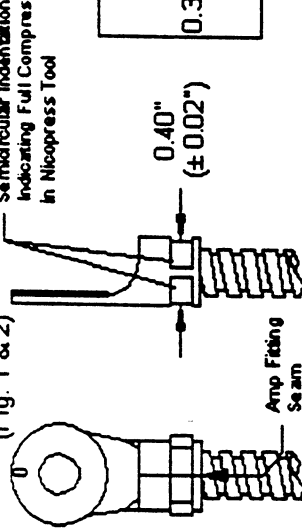

Fig. 1 Fig. 2
- 2) Refer to the diagram on Page 2, figures 1 & 2. Determine if your Amp Fitting's swaged indentation resembles these correct diagrams. If so, double check by measuring the indentation diameter per figure 2. The correct dimension is 0.40 inches, +/-0.02 inches. (Refer to Page 2 for metric equivalents)
(Fig. 1 & 2)
Amp Fitting Must Be Oriented in Nicopress Tool as Shown; The Amp Fitting Seam (See Fig. 1) Must Be Up!